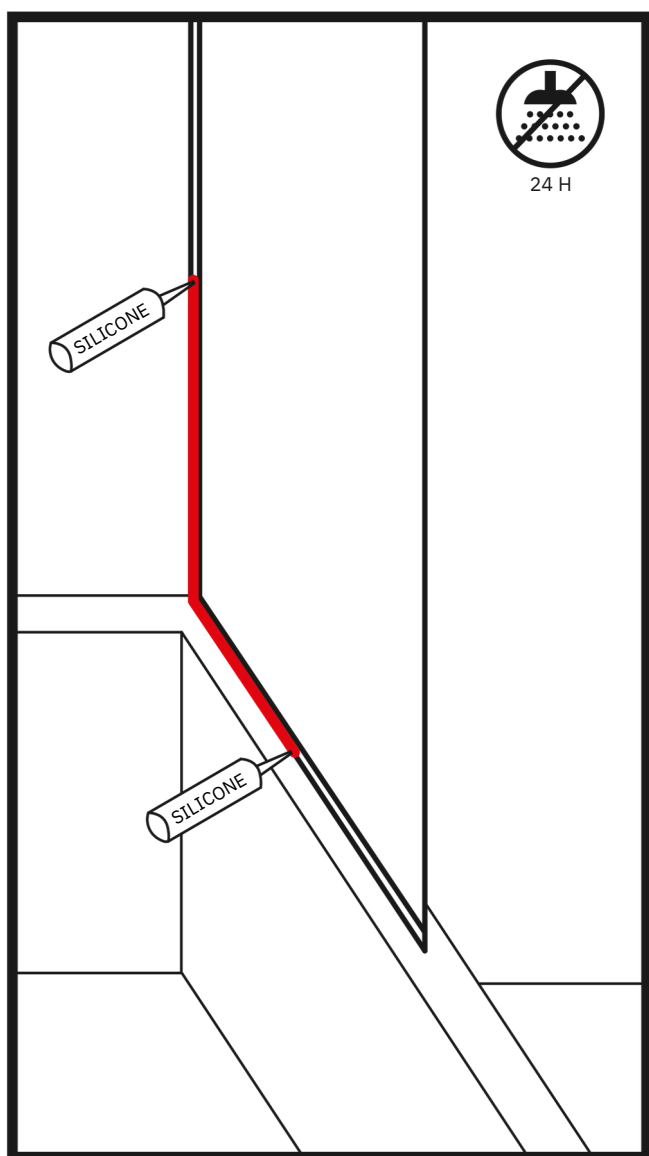
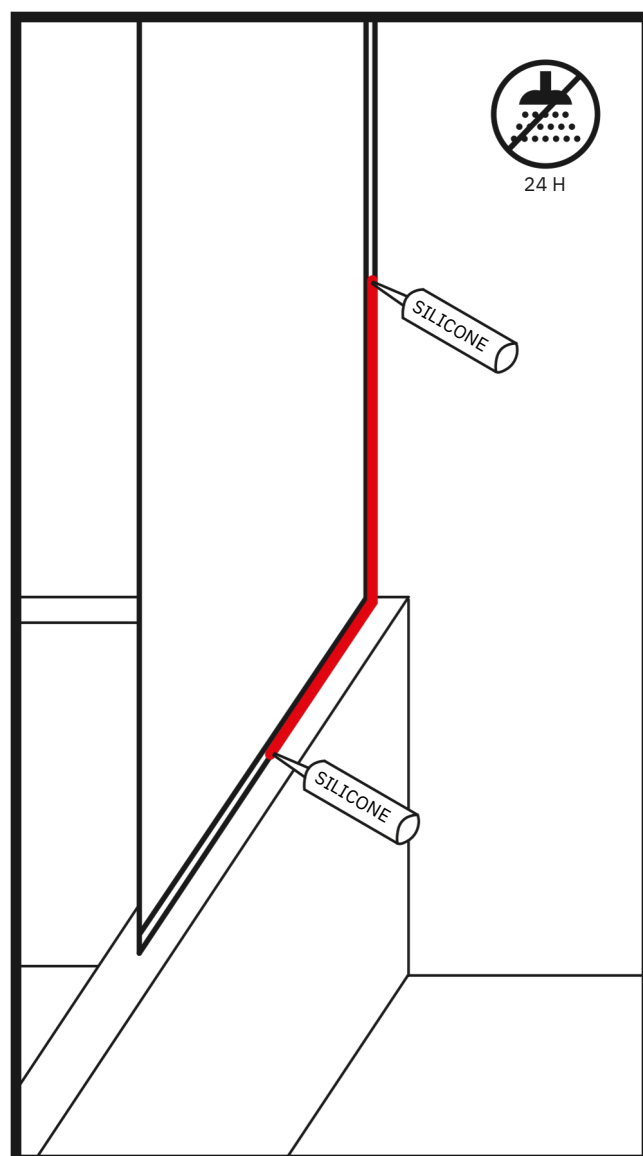

Figure 11
Figure 12
31. Apply an even silicone strip to the edges of the U-channel on the inside (Figure 11) and outside (Figure 12) of the bathtub glass.